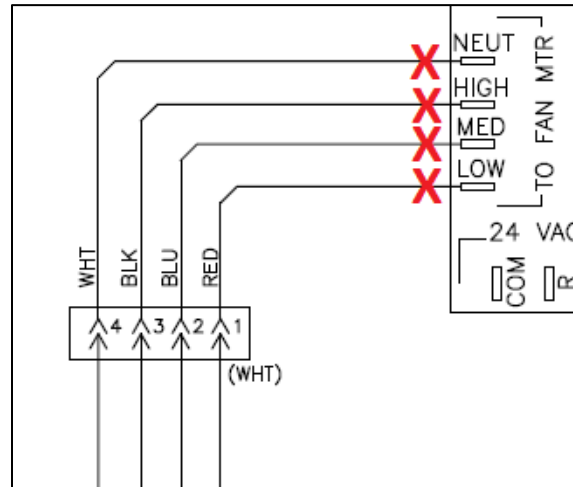

Figure 5 – Removing PSC motor wires
a. PSC motors (see Figure 5)
- v. Remove BLACK wire from “LINE VOLTAGE IN” portion of FCRB (NOTE: for dual motor units ONLY, there will be two wires connected. Remove butterfly/Y connector and remove both wires from connector). Exact location of wire will be determined by the unit’s voltage (115V shown in Figure 5):